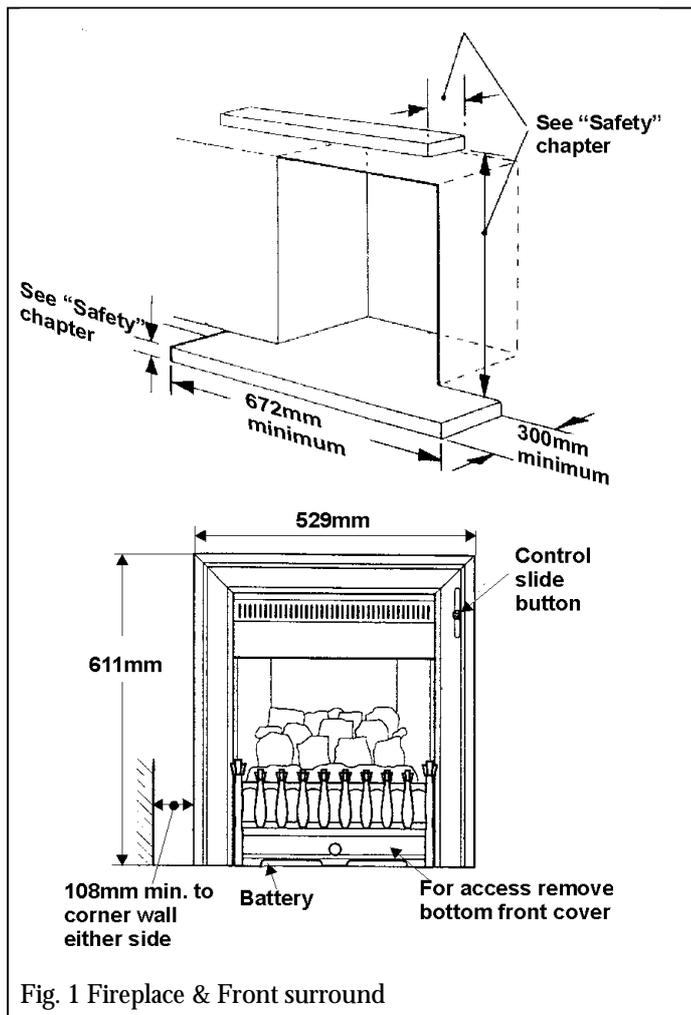

Fig. 1 Fireplace & Front surround
3. On no account must the fire stand on carpets or other combustible materials. The fire must stand behind a non-combustible hearth surface. The hearth material must be at least 12mm thick. Its top surface should be 50mm above floor level to discourage placing carpets. Rugs or other combustible materials over the hearth. The minimum size of the hearth is shown in figure 1.
4. If the fire is intended to be installed against a wall with combustible cladding, the cladding must be removed from the area covered by the outer surround (see figure 1).